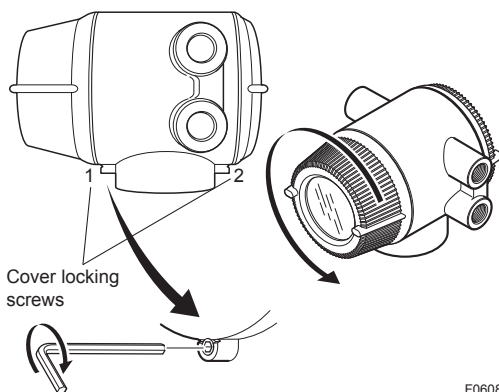

Figure 6.3.1 Removing the Display Cover for Integral Flowmeter and AXFA14 Remote Converter
- (4) Taking care not to entangle the cables, install the cover to the flowmeter by turning it in the backward direction of the arrow as shown Figure 6.3.1.
- (5) Tighten cover locking screw 1 counterclockwise using a hexagonal wrench (nominal size 3) to lock the cover.